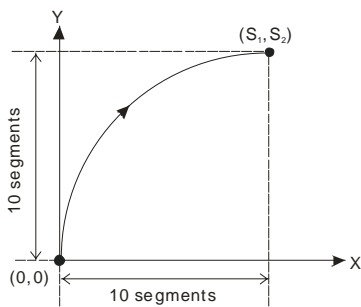
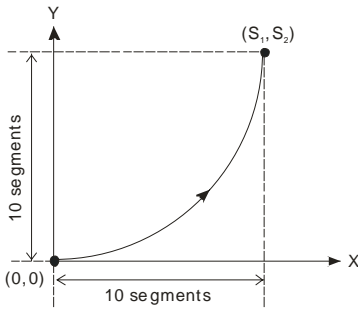

Figure 1
Figure 3
4. The lower 16 bits of **S** (settings of direction and resolution): K0 refers to clockwise 10-segment (average resolution) output; K2 refers to clockwise 20-segment (higher resolution) output and a 90° arc can be drawn (see figure 1 and 2). K1 refers to counterclockwise 10-segment (average resolution) output; K3 refers to counterclockwise 20-segment (higher resolution) output and a 90° arc can be drawn (see figure 3 and 4).